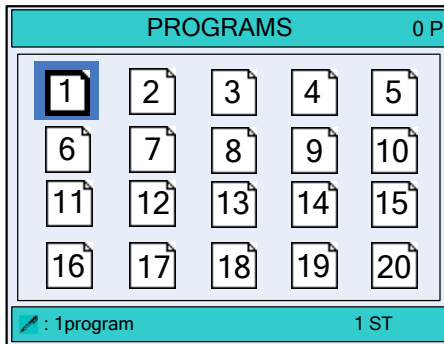

Figure 3-3 The **PROGRAMS** page
Step 2 Press  to enter the **PROGRAMS** page, as shown in Figure 3-3.